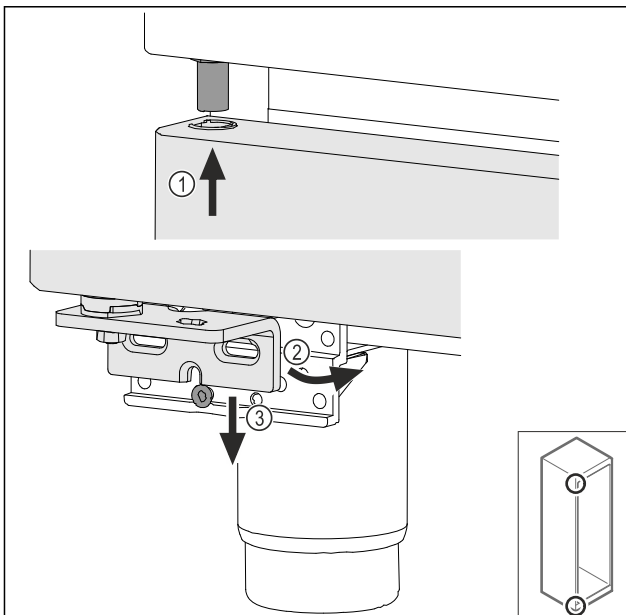

Fig. 37
- Feed in the door slightly tipped at the top Fig. 37 (1), align the door straight Fig. 37 (2) and fit the swap bearing blow screw Fig. 37 (3) at the bottom.